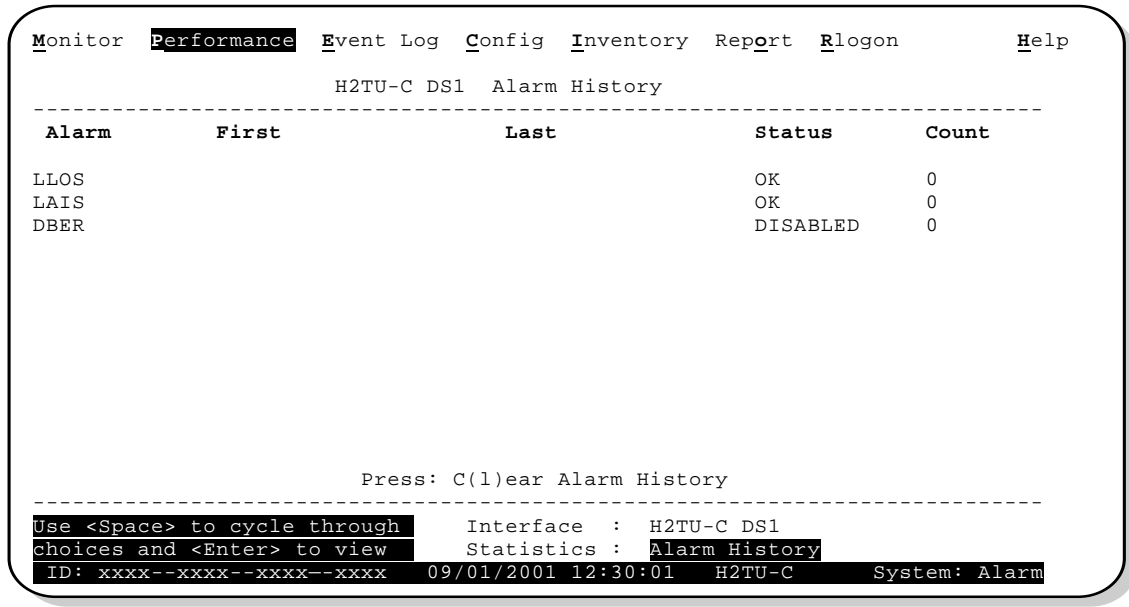
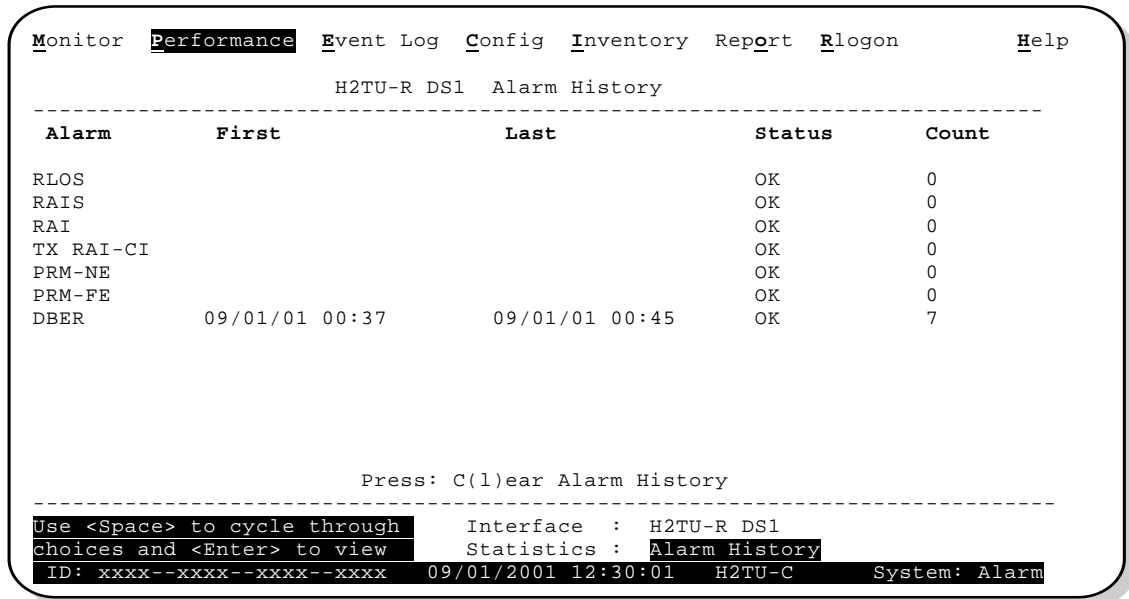

Figure 21. H2TU-C DS1 Alarm History Screen
Figure 22. H2TU-R DS1 Alarm History Screen
- Alarm statistics for DS1 interfaces (Figure 21 on page 37 and Figure 22 on page 37) or the HDSL2 (Figure 23 on page 39) on a continuous basis.
The Alarm History screen reports DS1 statistics for the H2TU-C (Figure 21) and the H2TU-R (Figure 22 on page 37) on a continuous basis. The types of alarms reported are described in Table 17 on page 38. Current alarms are shown in reverse video.
H2TU-C DS1 ALARMS (see Figure 21 on page 37)
H2TU-R DS1 ALARMS (see Figure 22 on page 37)